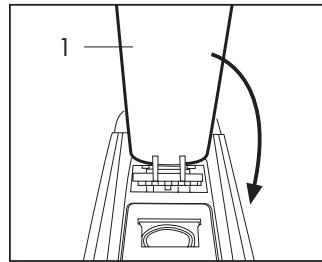

Fig. 10
- Completely close the lever (1) (**Fig. 10**)